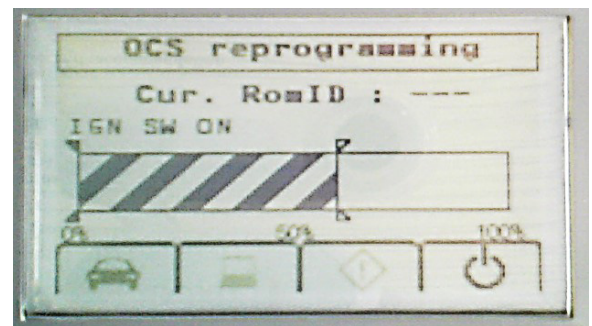

Figure A9
- Reprogramming will begin automatically. A progress bar will be displayed showing the percent complete, and the car icon will flash during the reprogramming process (see Figure A9).